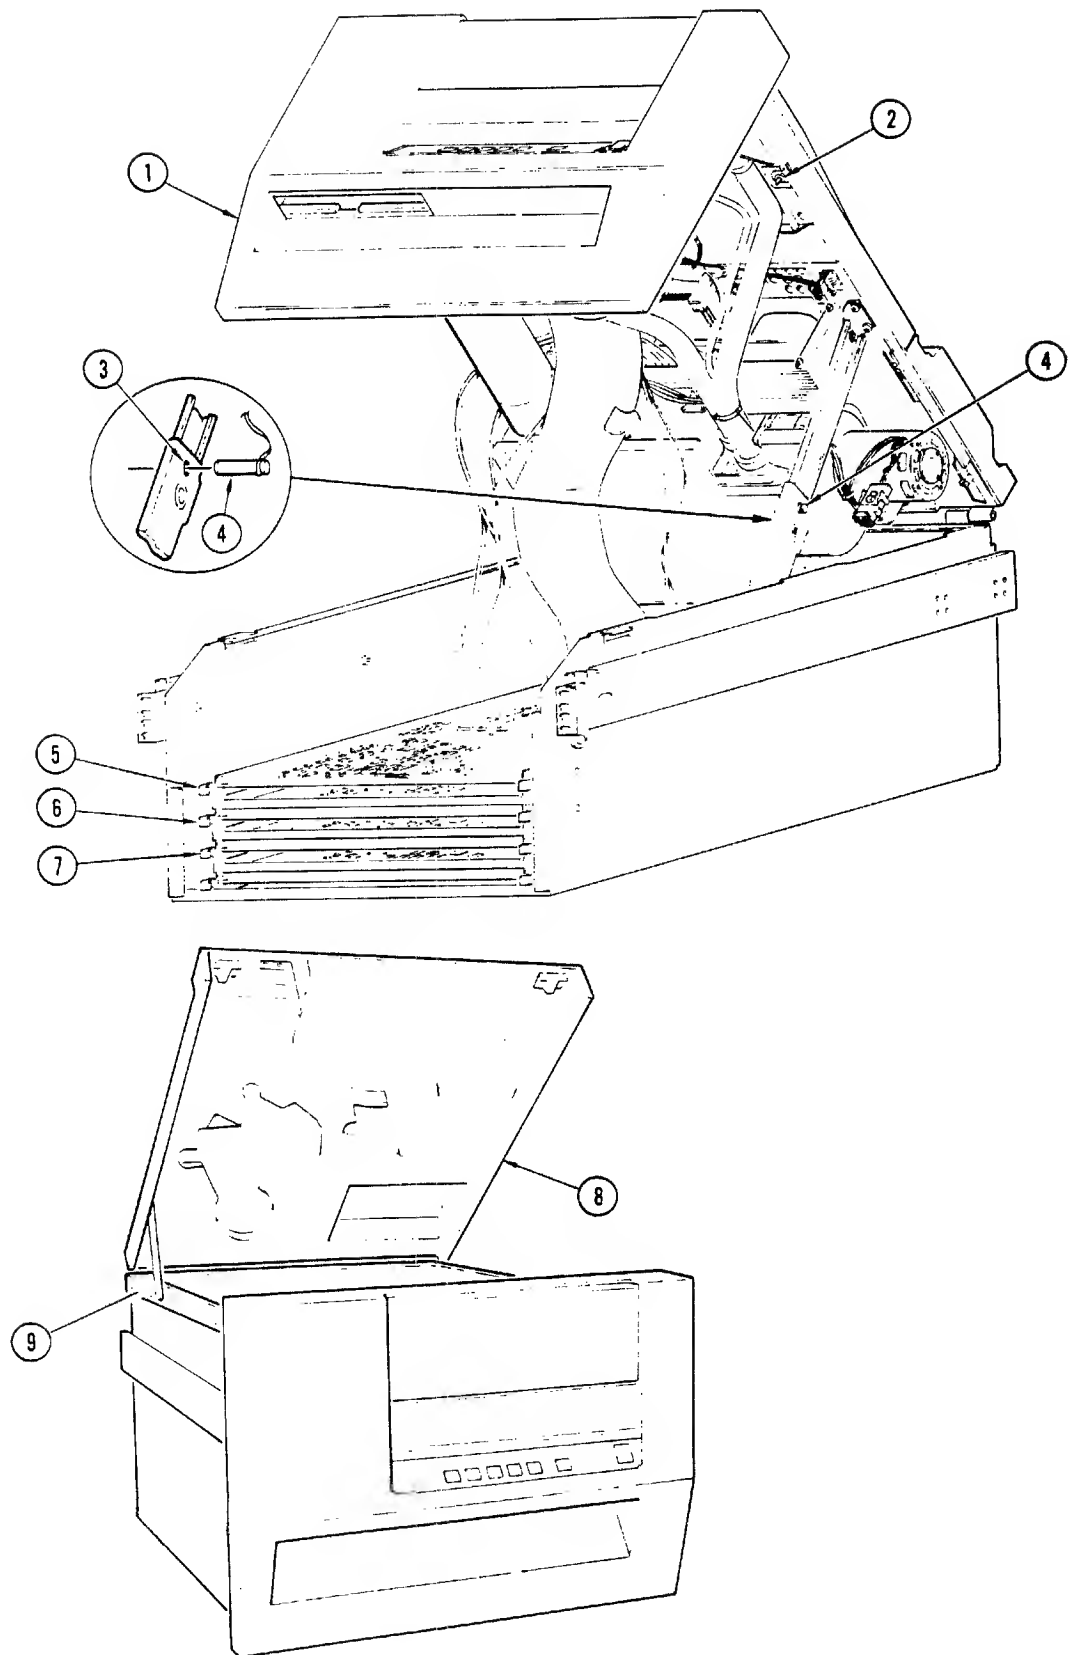
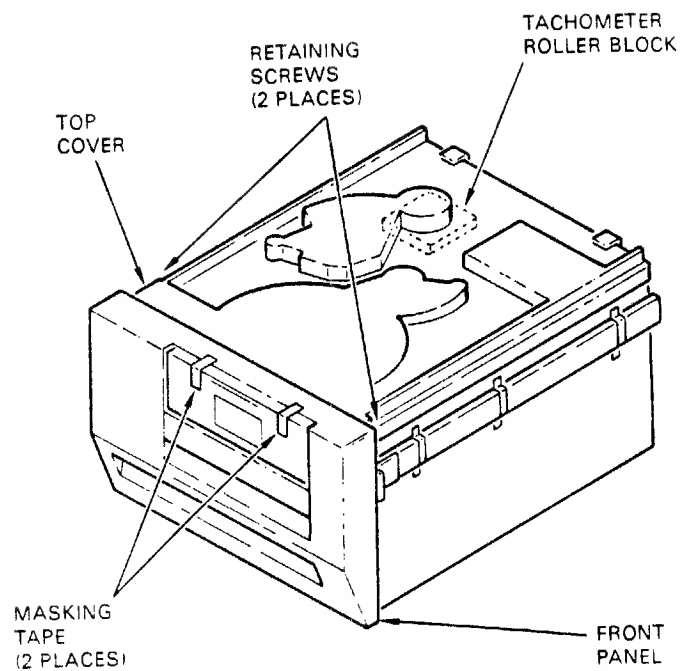

Figure 3.
Figure 4.
19. Loosen the two spring-loaded screws (2) on both sides of the base plate. See Figure 3.
21. Lift up on the two lower corners of the front panel to its maximum position. The latch mechanism locks in an upright position. Install the locking pin (4) provided.
Insert the provided locking pin (4) into the hole (3) in the tape unit support arm. Never service the tape unit in the service position unless you install the locking pin. See Figure 3.
23. Return front panel to its original position and tighten the two spring loaded screws (2) on the top base plate.
2. Open the top cover and install the Tach Roller Block on the take-up hub. See Figure 4. Loosen the chassis retaining screws and place the drive in the service access position. Use the support pin; see Figure 3. Insert the three thin foam pads in between the PWBs; insert the two foam blocks between the PWBs and the chassis, one on each side of the PWBs. Remove the safety pin, close the drive, and tighten the retaining screws.